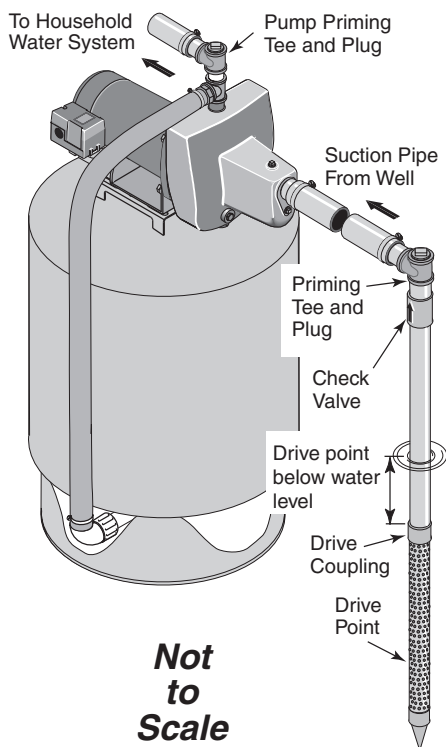

Figure 1: Driven Point Installation
WELL POINT (DRIVEN POINT) INSTALLATION (FIGURE 1)
3. Use the fewest possible fittings (especially elbows) when connecting the pipe from the well point to the pump suction port. The suction pipe should be at least as large as the suction port on the pump (include a check valve if your pump is not equipped with one – see Figure 1). Support the pipe so that there are no dips or sags in the pipe, so it doesn't strain the pump body, and so that it slopes slightly upward from the well to the pump (high spots can cause air pockets which can air lock the pump). Seal the suction pipe joints with PTFE pipe thread sealant tape. Joints must be air- and water-tight. *If the suction pipe can suck air, the pump cannot pull water from the well.* If one well point does not supply enough water, consider connecting two or three well points to one suction pipe.